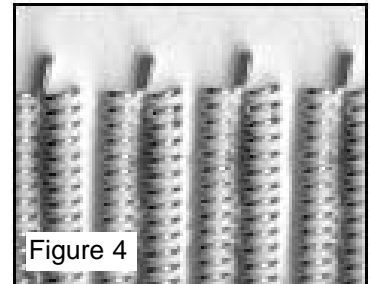
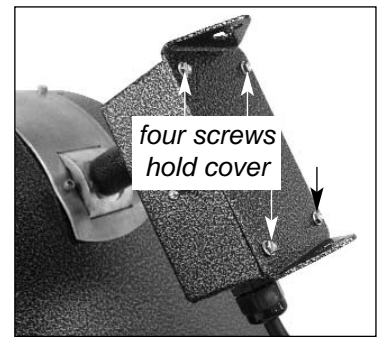

Figure 5 - Wall bracket removed from conduit box.
Figure 6 - Conduit cover removed from conduit box.
1. Remove the heater from the wall bracket (HZE-1500W) by removing the two bolts, washers and nuts from the bracket. (Figure 2 and Figure 5)
3. Remove the four screws that hold the cover on the junction box. Remove the cover. (Figure 5 and Figure 6)
5. Carefully slide the element frame out to one side. Notice the two wires that are being pulled out of the junction box; feed them out as they are pulled by the frame. (Figure 6 and Figure 8)
11. Carefully slide the element frame back into the heater. The two wires must be carefully pulled back into the junction box as the element is slid into place (leaving them loose in the heater housing can cause them to overheat). (Figure 6)
13. Replace the junction box cover and the four screws that hold it in place. Be sure the gasket is intact. (Figure 5)